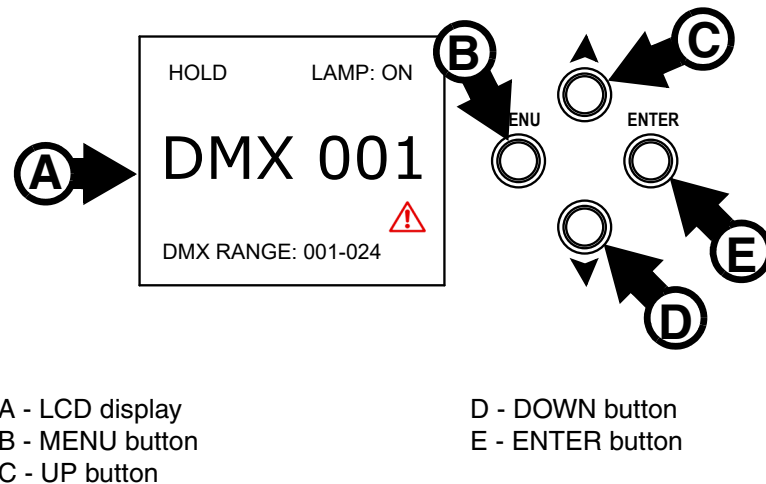

Figure 5: Display and control panel
When the ERA 500 Hybrid IP is powered on, it boots and carries out a reset. Then it shows the default information display shown in Figure 5:
- 'No data' mode setting (in Figure 5 it is set to HOLD)